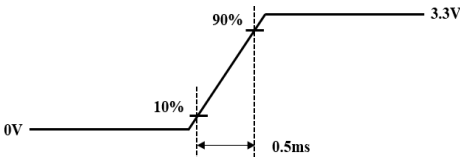

Figure 4. Inrush Measure Condition
3. Measure condition (Figure 4)